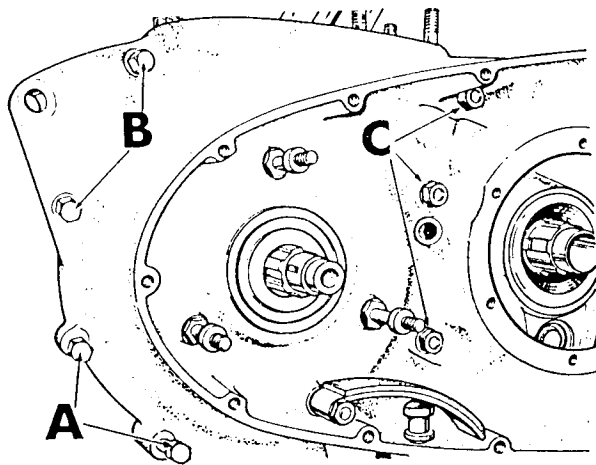

FIG. B.61. Crankcase bolts (1966/7).
Remove the nuts and washers from the two bolts (A) at the lower front of the case, the two bolts (B) at the upper front and the three studs (C). Fig. B.61.